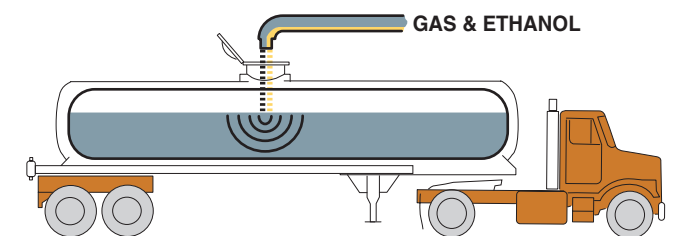

FIGURE 2-12 In-line blending is the most accurate method for blending ethanol with gasoline because computers are used to calculate the correct ratio.
1. **In-line blending.** Gasoline and ethanol are mixed in a storage tank or in the tank of a transport truck while it is being filled. Because the quantities of each can be accurately measured, this method is most likely to produce a well-mixed blend of ethanol and gasoline. ● **SEE FIGURE 2-12.**